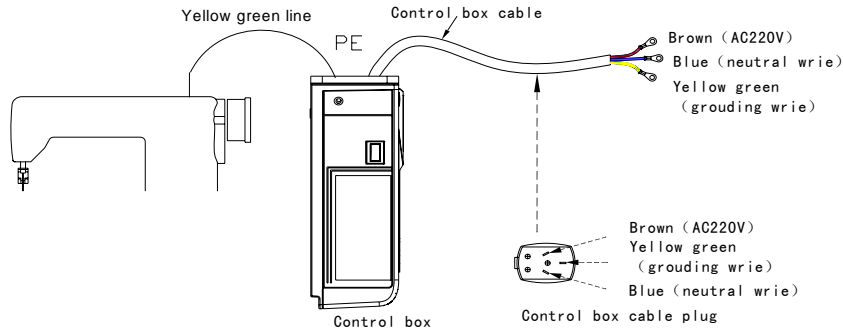
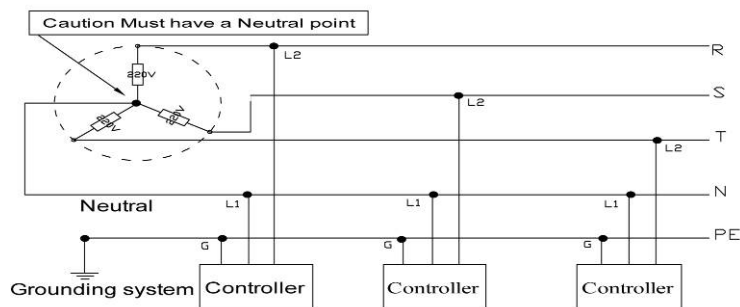

Fig. 3-1
Fig. 3-2
Ground wire (Green/yellow) must be grounded. Use the correct connector and extension wire when connecting ground wire to Earth and secure it tightly (see Fig.3-1).
A 1 $\Phi$ /220V power from a 3 $\Phi$ /380V Power source Connection (See Fig.3-2):
Step 1: Under idle state, first press  (1key) and hold on, then press  (3key) .Two keys are pressed at the same time, digital tube display see figure 3.1, required to enter the password. The default password is 000.
Fig.3.1 password interface
Step 2: Press , ,  (3key), (4key), (5key) ,Modify the digital tube display to the correct password, and then press  (1key) . If the password is correct, enter the parameters modified index, see figure 3.2, or remain in the password input state, see figure 3.1.
Fig.3.2 technical index